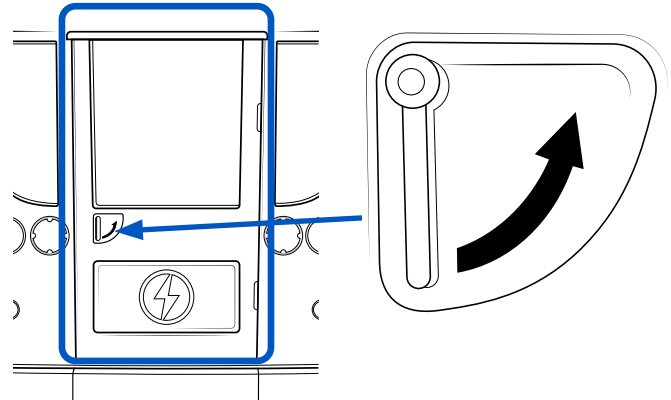

Figure 3 - Exterior view of the **LIONC** emergency door
- The emergency exit is located at the back of the vehicle and is clearly indicated as such. The operating method is displayed on the door (**Figure 3**).